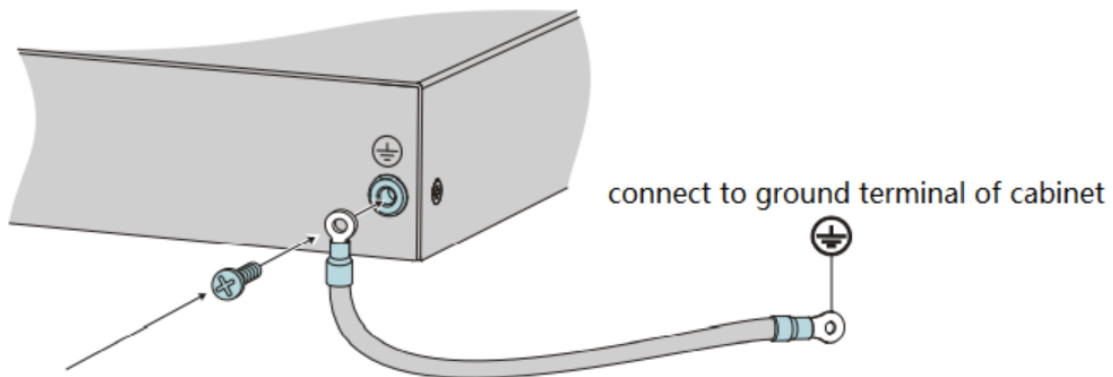

Figure 30: Grounding the device
- ☐ Install the grounding screw at the rear of the device to the protective conductor, see Figure 30.